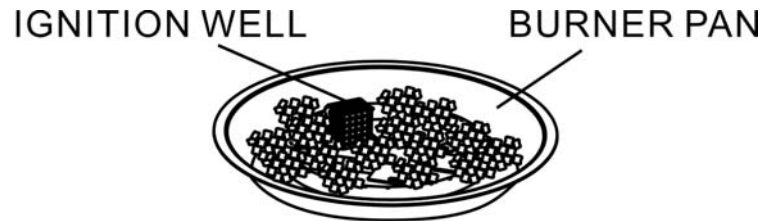

Figure 11
11. Pour the lava rocks or fire ice into the burner pan completely covering the burner. The weight of lava rocks is (3.6kg plus and minus 10%); the weight of the fire ice is (8kg plus and minus 10%). Remove any lava rocks or fire ice on top of the ignition well. See Figure 11.